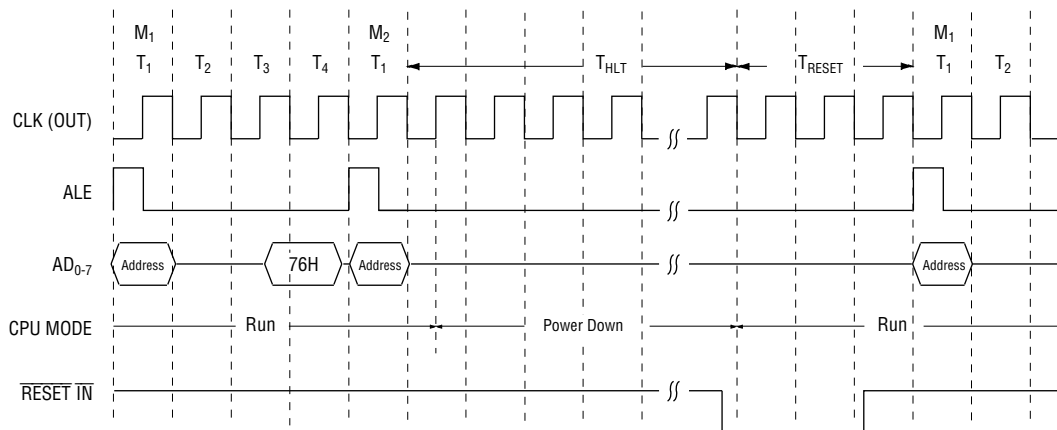

Figure 6 Started by HALT and Released by $\overline{\text{RESET IN}}$
(1) Start by means of HALT command (See Figures 6 and 7.)